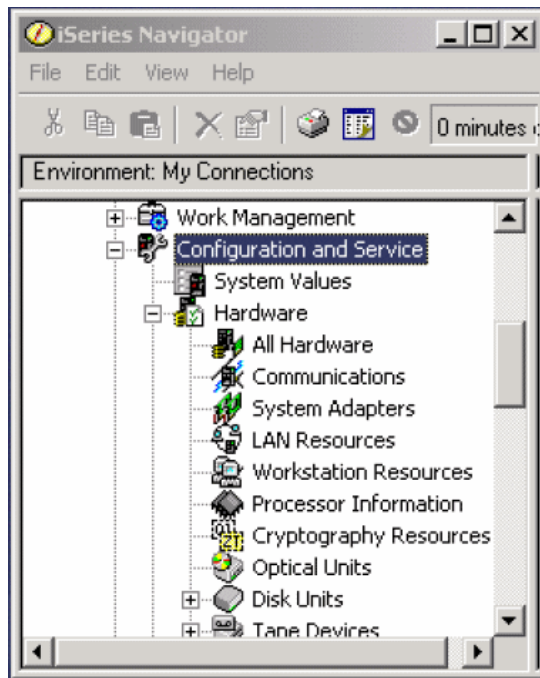

Figure C-2 System i Navigator Panel
b. Click **Configuration and Service** as shown in Figure C-2.